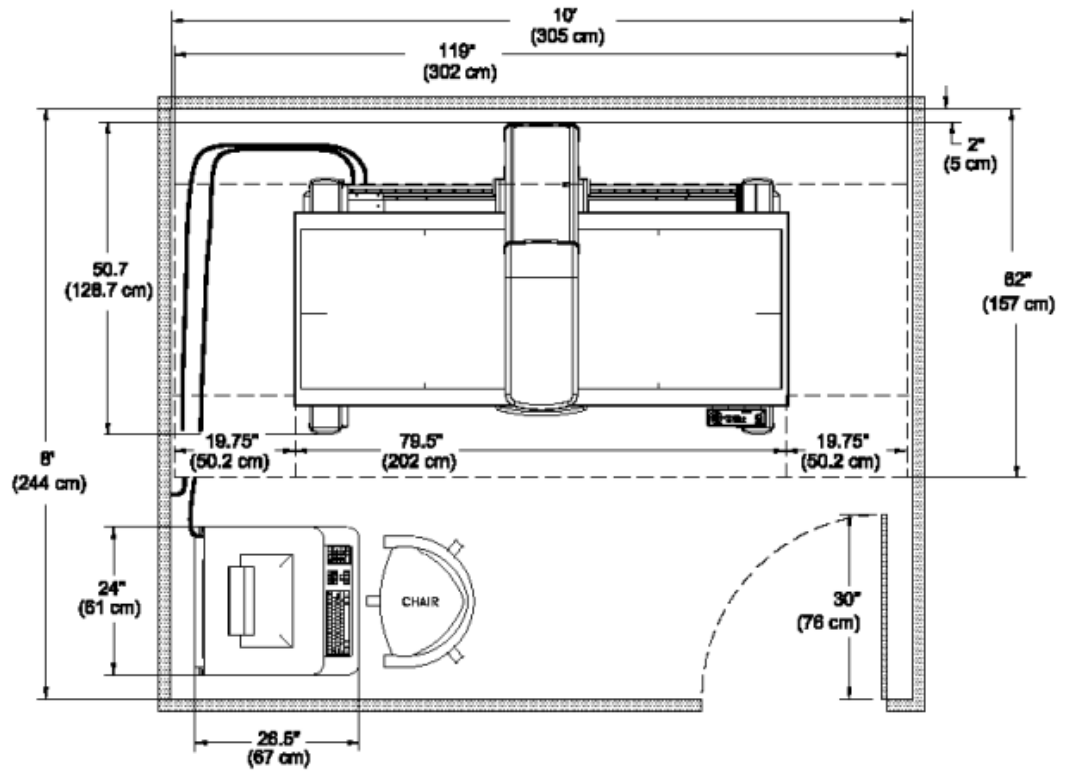

Figure 2: Horizon W, Horizon Wi
- Figure 2: Horizon W, Horizon Wi